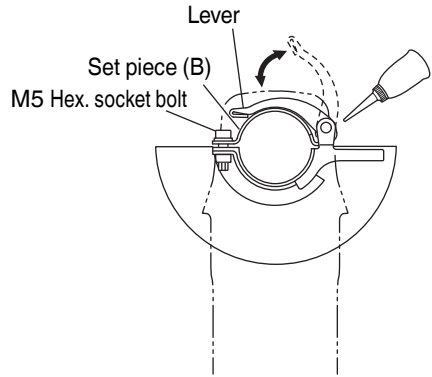

Fig. 9
- [How to attach and adjust the wheel guard] (Fig. 9)
- Lubricate the sliding section of the set piece (B) and the lever if the lever does not move smoothly.